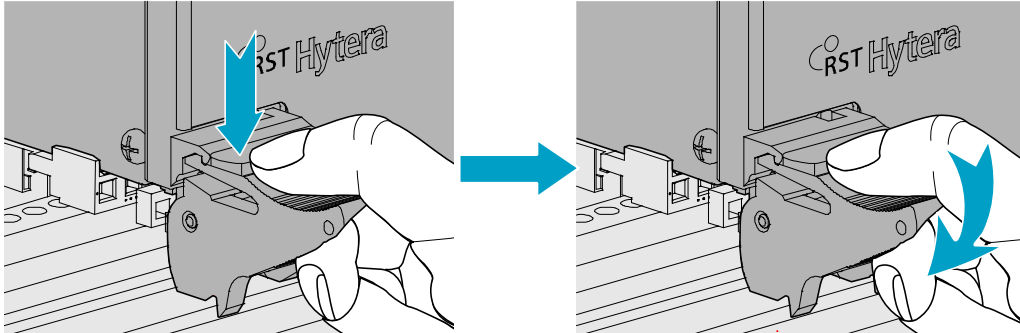

Figure 3-9 Loosening the Ejector
**Step 2** Disassemble the side doors as shown in Figure 3-9.
1. Loosen the two ejectors as shown in Figure 3-9.